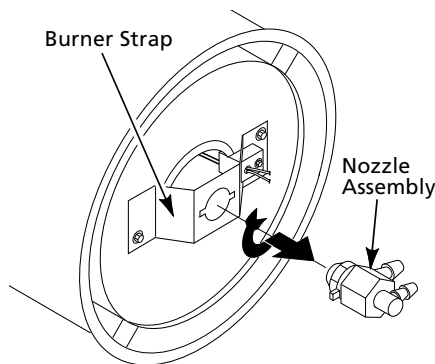

Figure 21 - Removing Nozzle Assembly, All Models
4. Turn nozzle assembly 1/4 turn to left and pull toward motor to remove (See Figure 21).